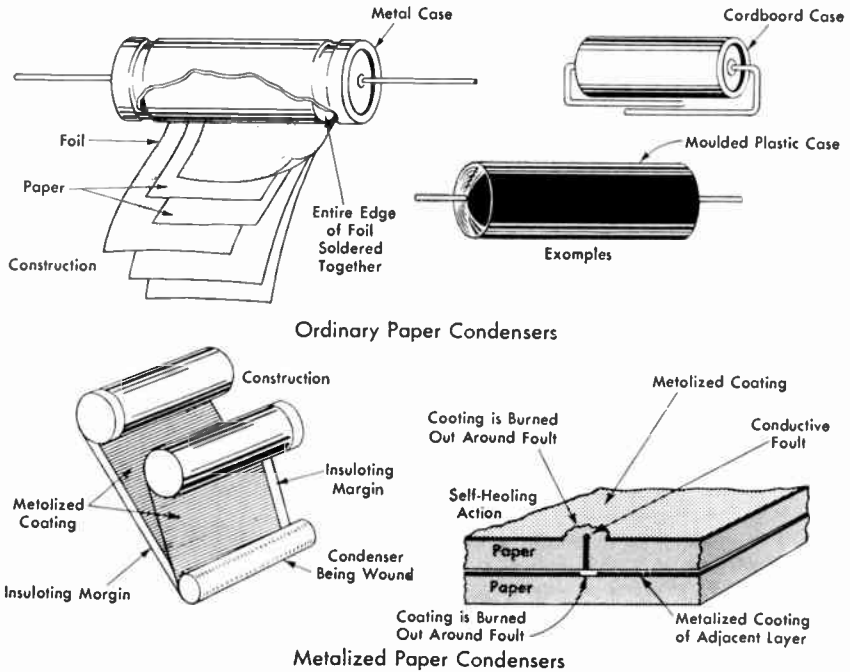

Fig. 2. Construction details of the two important types of paper condensers
**Paper Condensers.** In this commonest of all condensers, thin strips of metal foil are used as plates, with one or more thicknesses of insulating paper between the plates. The foil and paper strips are wound into a tight roll to occupy minimum space. This roll is then inserted in a tubular cardboard or metal container, as in Fig. 2. Sometimes a plastic housing
Sometimes no metal foil is used in paper condensers. Instead, a thin metallic coating is deposited on one side of each paper strip. These tubular condensers are called metalized paper condensers. Whereas ordinary paper condensers stay shorted when a conductive flaw develops between the foil plates, metalized paper condensers are self-healing. The metallic coating burns out around the flaw and isolates it, as shown in Fig. 2. This leaves the condenser practically as good as new.